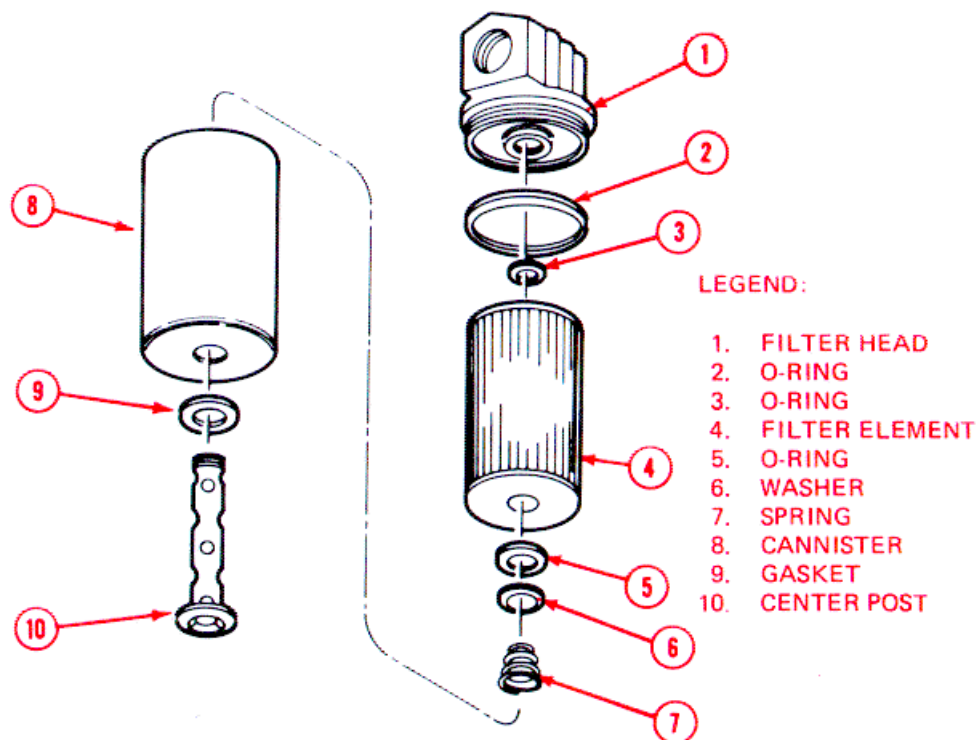

Figure 3-26. Hydraulic Oil Filter Service.
- (1) Unscrew and remove centerpost (10, fig. 3-26).
- (2) Remove center post gasket (9).
- (3) Remove cannister (8).
- (4) Remove the following parts from cannister (8).
- (a) Filter element (4).
- (b) O-rings (3) and (5).
- (c) Steel washer (6).
- (d) Spring (7).
- (5) Remove O-ring (2) from filter head (1).